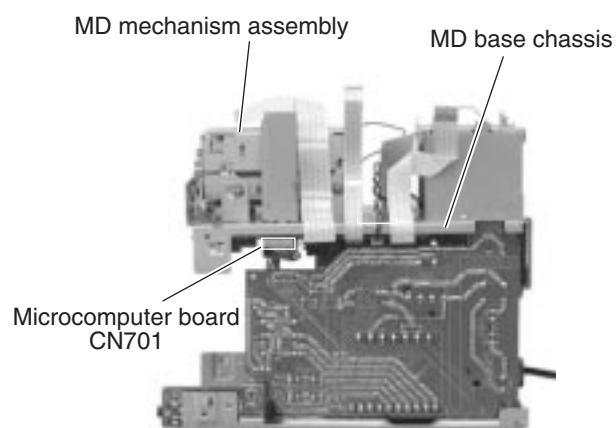

Fig.27
■Removing the MD base chassis/ microcomputer board (See Fig.27~29)